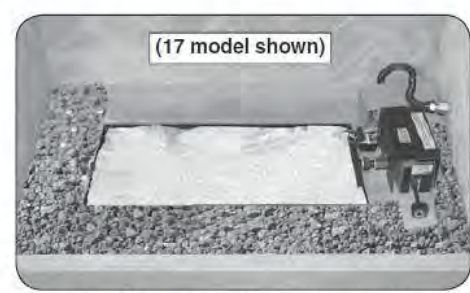

Fig. 19-1 Place sand/vermiculite
- 1. Fill the burner pan completely with the sand/vermiculite (see Fig. 19-1). Avoid spilling the sand/vermiculite on the pilot assembly. DO NOT place sand/vermiculite on any other parts of the burner, valve, or heat shield.